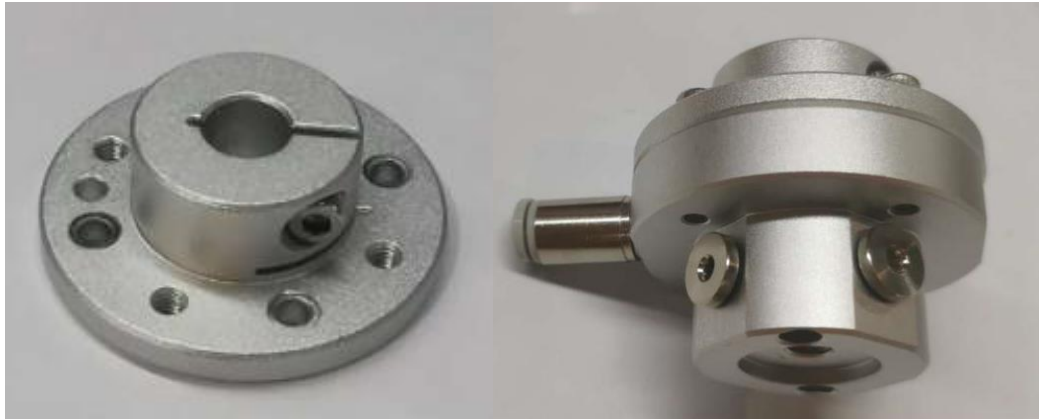

Figure 2.12 Install the end flange of MG400
**Step 2** Install the end flange of MG400 (accessory of MG400) to connection block, and tighten four screws, as shown in Figure 2.12.